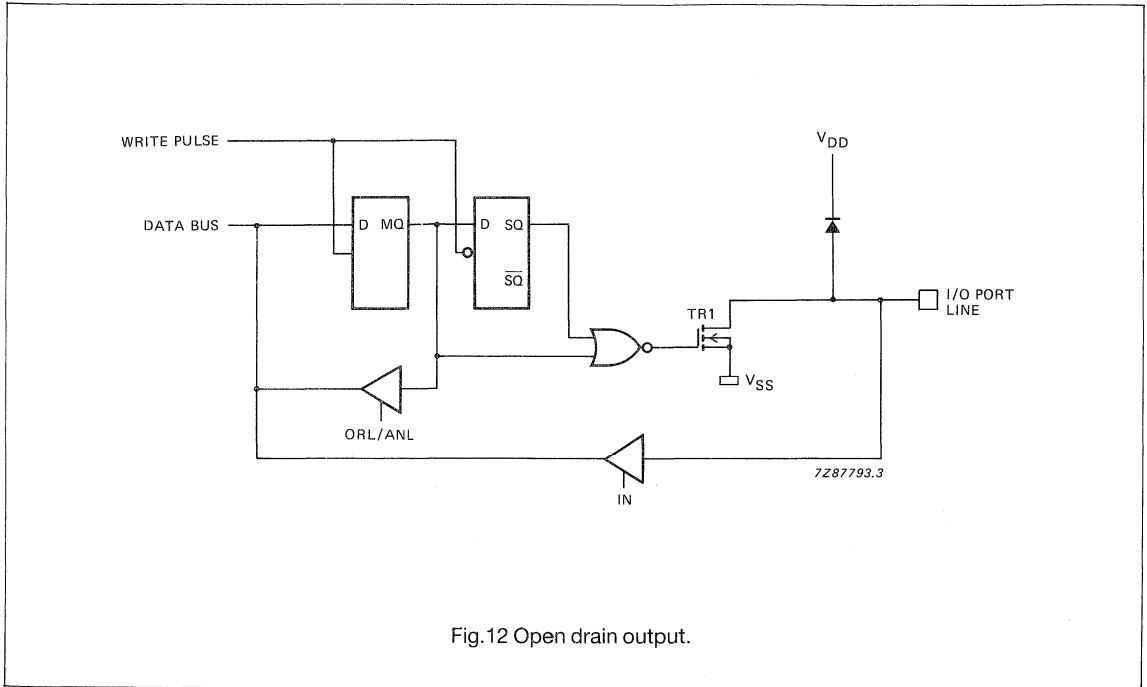

Fig.12 Open drain output.
- Option 2 OPEN DRAIN; quasi-bidirectional I/O with only an N-channel open drain output. Application as an output requires connection of an external pull-up resistor (Fig.12).